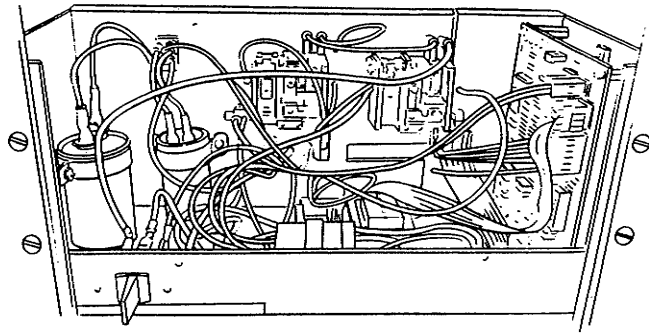

Figure 45. Control Box Exposed
3. Remove the two hex head screws from the control box cover and remove the cover, allowing the entire control box to be exposed (Fig. 45).